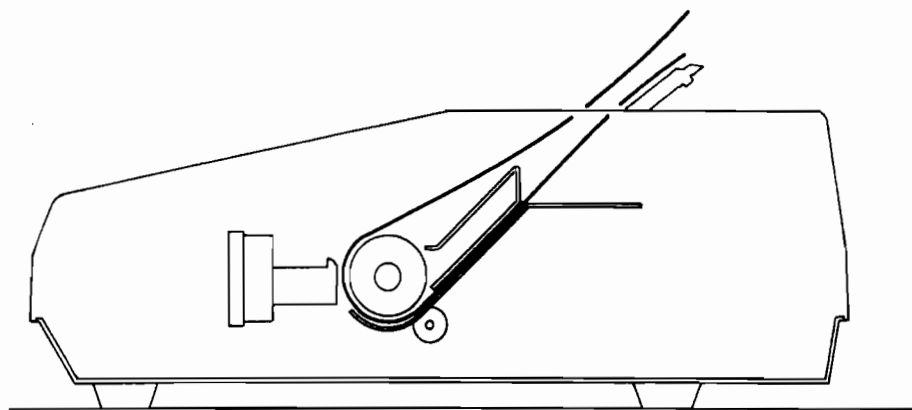

Figure 6 Single-Sheet Paper Feeding
5. Insert the paper into the Paper Insertion Opening and push the Release Lever back toward the rear of the Printer. Use the Paper Feed Knob to pull the paper around until it appears between the Platen and the Print Head (See Figure 6).